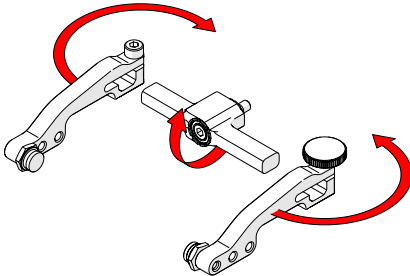

Fig. 132 - Flip yoke and reverse arms
3. Flip the yoke 180° and reverse the probe holder arms (Fig. 132).